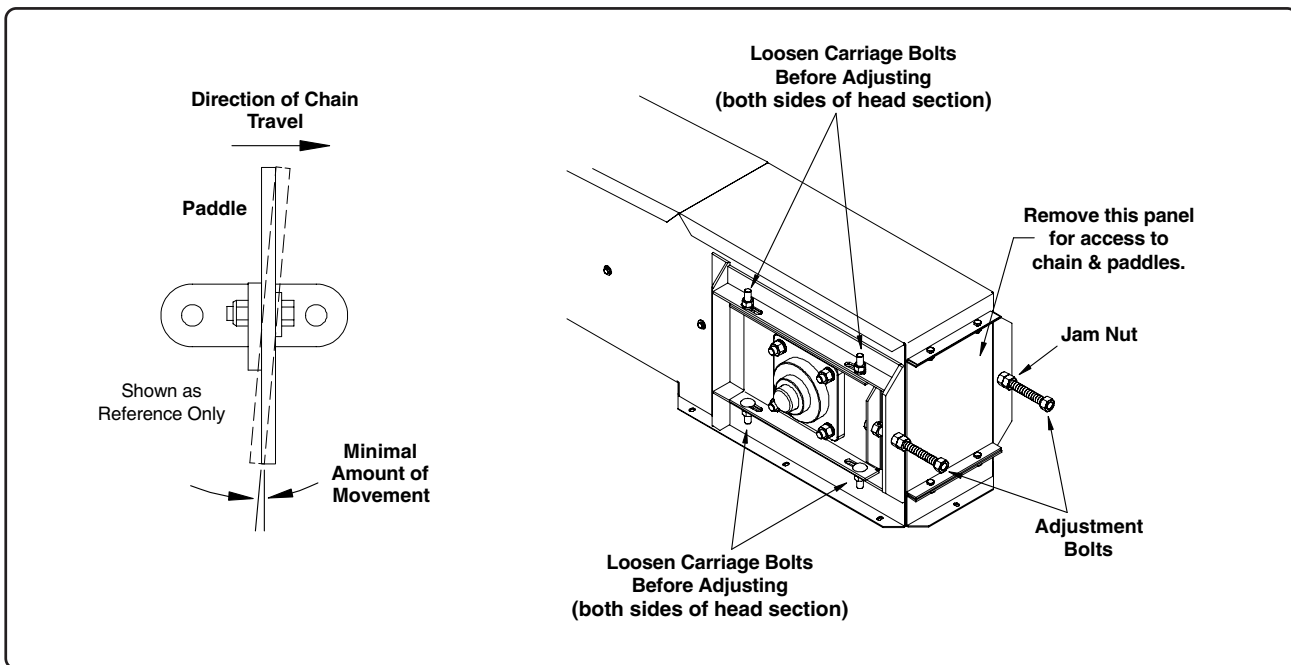

Fig. 20
2. Check chain tension. Grasp one of the paddles at the inlet end, and attempt to rotate it up towards the chain (See Fig. 20). Proper chain tension should allow only minimal movement of the paddle.
1. Loosen the four (4) carriage bolts on each of the take-up slides on the head section located at the discharge end of unit, See Fig. 20 (there will be a total of eight carriage bolts).